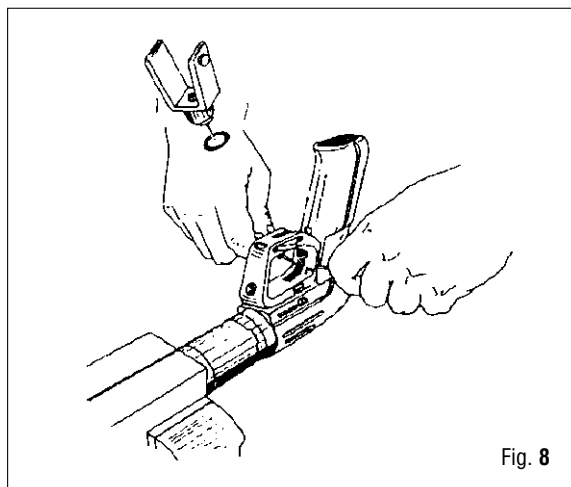

Fig. 8
24. For Competition Line Spearguns with serials numbers 92289000 and prior, remove snap fork (74) by inserting, simultaneously, 2 small screwdrivers or punches through the holes on either side of the handle. Slightly depress snap fork with screwdrivers or punches and lift upward (Fig. 8).
25. Remove connecting plunger O-ring (77).